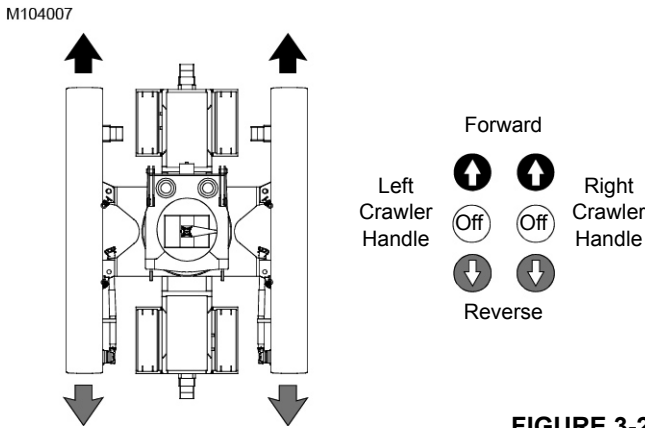

FIGURE 3-22
7. To travel straight, move both crawler handles the same amount in the desired direction from OFF (Figure 3-22).